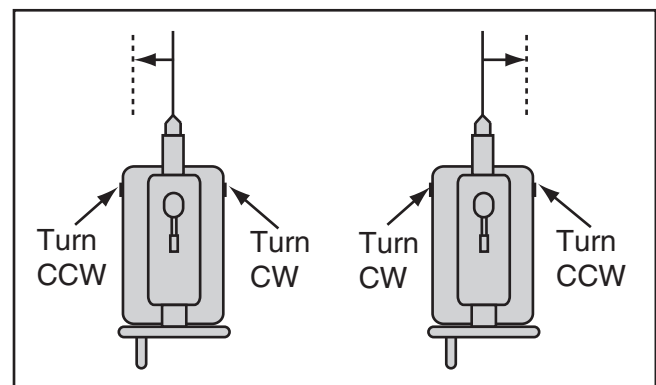

Figure 37. Set screw adjustment in relation to tailstock movement.
2. Rotate the adjustment set screws in opposite directions for the desired offset (see the illustration in **Figure 37**).